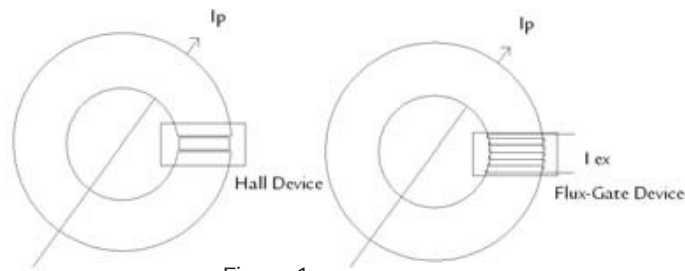

Figure 1
The flux-Gate principle uses a saturable inductor for sensing the field produced by an external current. The performance can be compared to a Hall-Effect Sensor. In the Hall effect sensor, the sensing element is a thin semiconductor sheet that generates a voltage when a magnetic field is applied across it. This voltage depends on the external field and the external exciting current. In the same way, the saturable inductor inductance value (L) depends on the magnetic core permeability. The core permeability changes both with an external field and with an exciting current through the inductor. Both sensing systems are showed in figure 1.